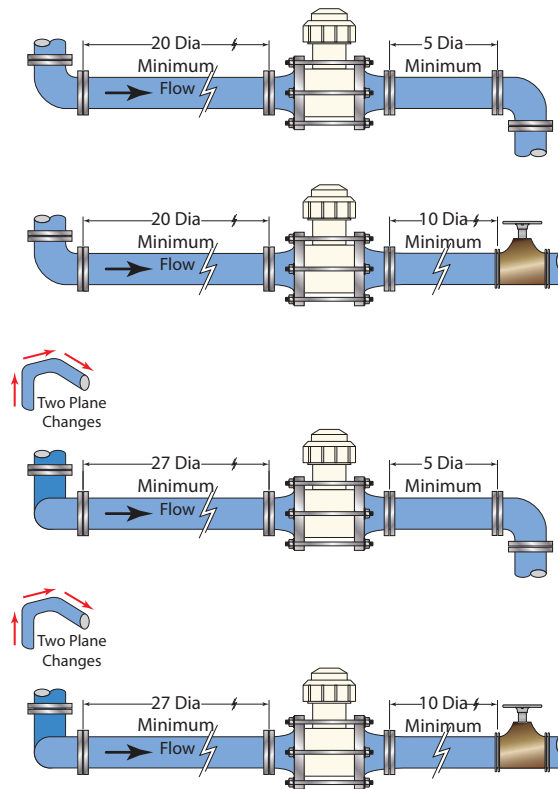
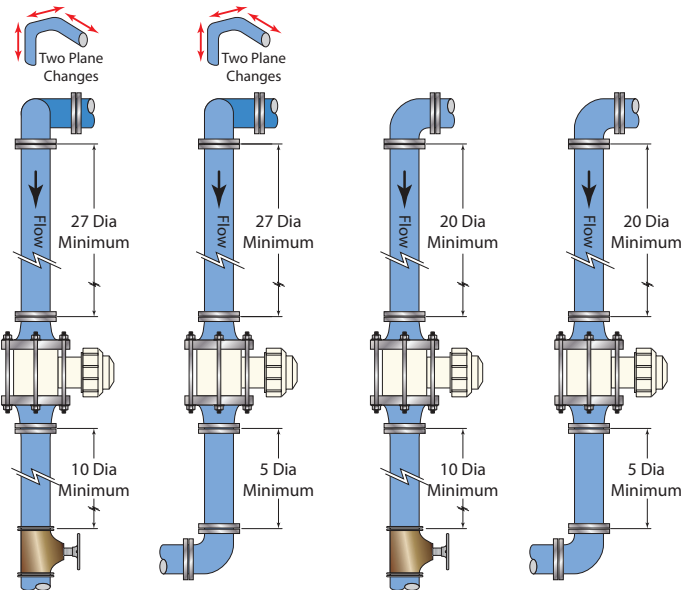
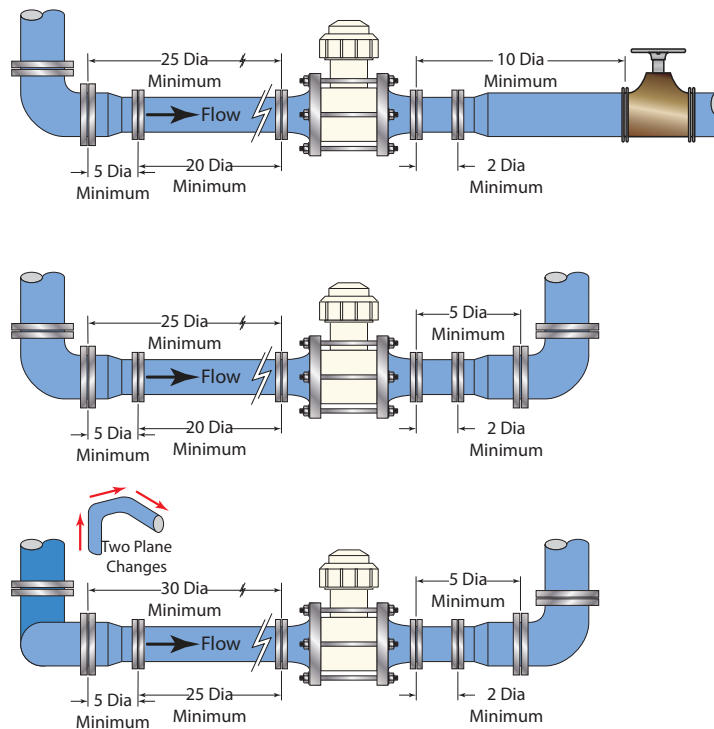

Figure 2: Horizontal flow with sensing element in vertical orientation
Figure 4: Vertical flow with a change in direction or valve
Figure 5: Horizontal flow with a change in pipe diameter
Turbulence in the pipeline can affect the accuracy of flow meters. Typical sources of turbulence are pumps, valves, change in pipe diameter or changes-in-direction in the line. Install the meter away from the turbulence source to avoid turbulence issues. These distances are indicated in Pipe Diameters (PD). For example, 10 PD is ten times the inside pipe diameter away from the source of turbulence. Follow upstream and downstream distances for all sources of turbulence. See *Figure 2 on page 7*, *Figure 3 on page 8*, *Figure 4 on page 9* and *Figure 5 on page 9* for proper piping distance requirements.